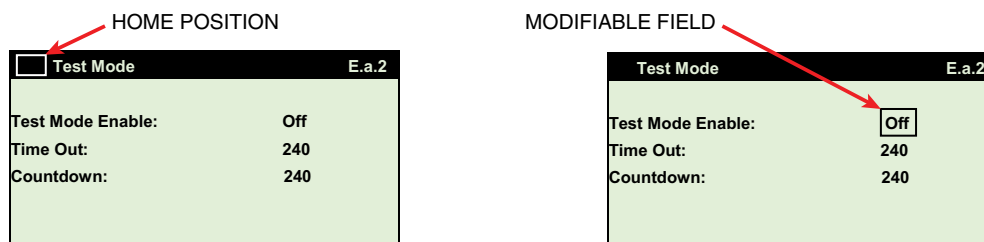

Figure 25. Cursor Home Position and Modifiable Field Position
The position of the cursor on the screen dictates which of the function keys need to be pressed and when. The home position for the cursor on any screen is located in the upper left-hand corner as shown in Figure 25. Display screen navigation when the cursor is in the home position is as follows:
- Press enter key to advance cursor to next available modifiable field (see Figure 25)